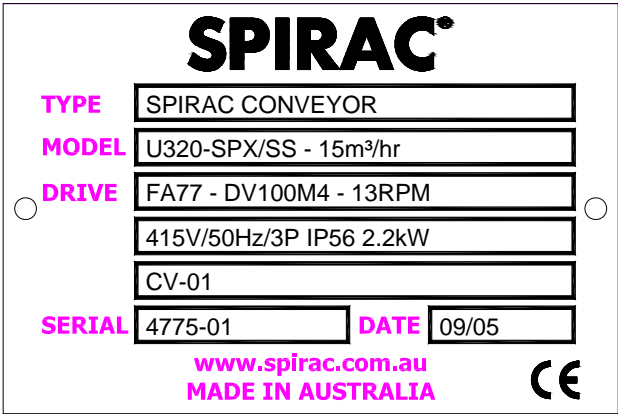

Figure 1.2a
There is one identification plate (ID) on each conveyor. *Figure 1.2a* shows an example of a typical ID plate.